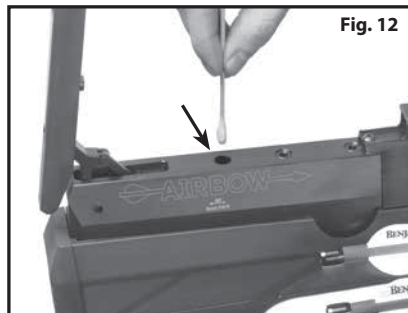

Fig. 12
3. Use a cotton swab to apply a graphite moly grease to the bolt and receiver where the bolt rides (FIG. 12). MOLY-GRAPH by CRC Industries is suitable grease for this application.